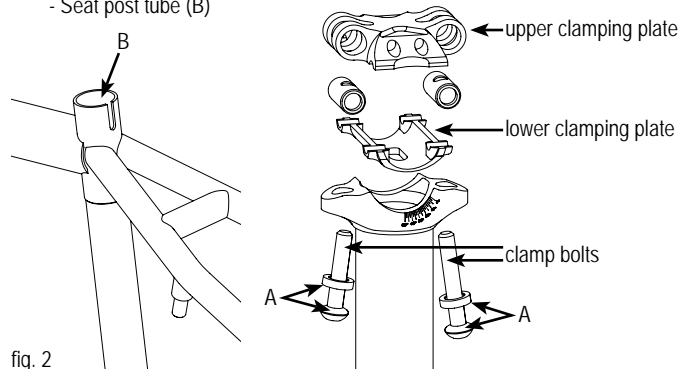

fig. 2
2. Lubrication: A thin film of grease is recommended in the following areas after service (figure 2):
- clamp bolt threads and under the heads of the bolts (A)
- Seat post tube (B)